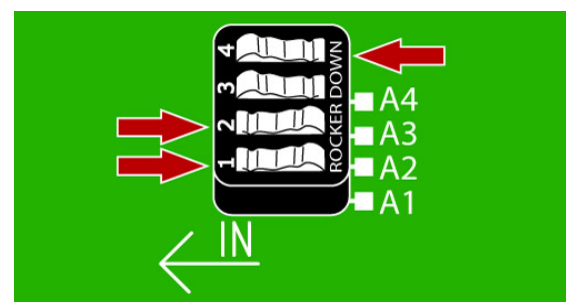

Figure 6. Setting a Dip Switch
- Step 2.** Locate an arrow printed near the dip switch labeled "IN". To inventory a breaker press the dip switch so that side facing the "IN" arrow is depressed. In Figure 6, A1 and A2 (switch 1 and 2) are inventoried breakers. A3 and A4 (switch 3 and 4) are not in inventory.